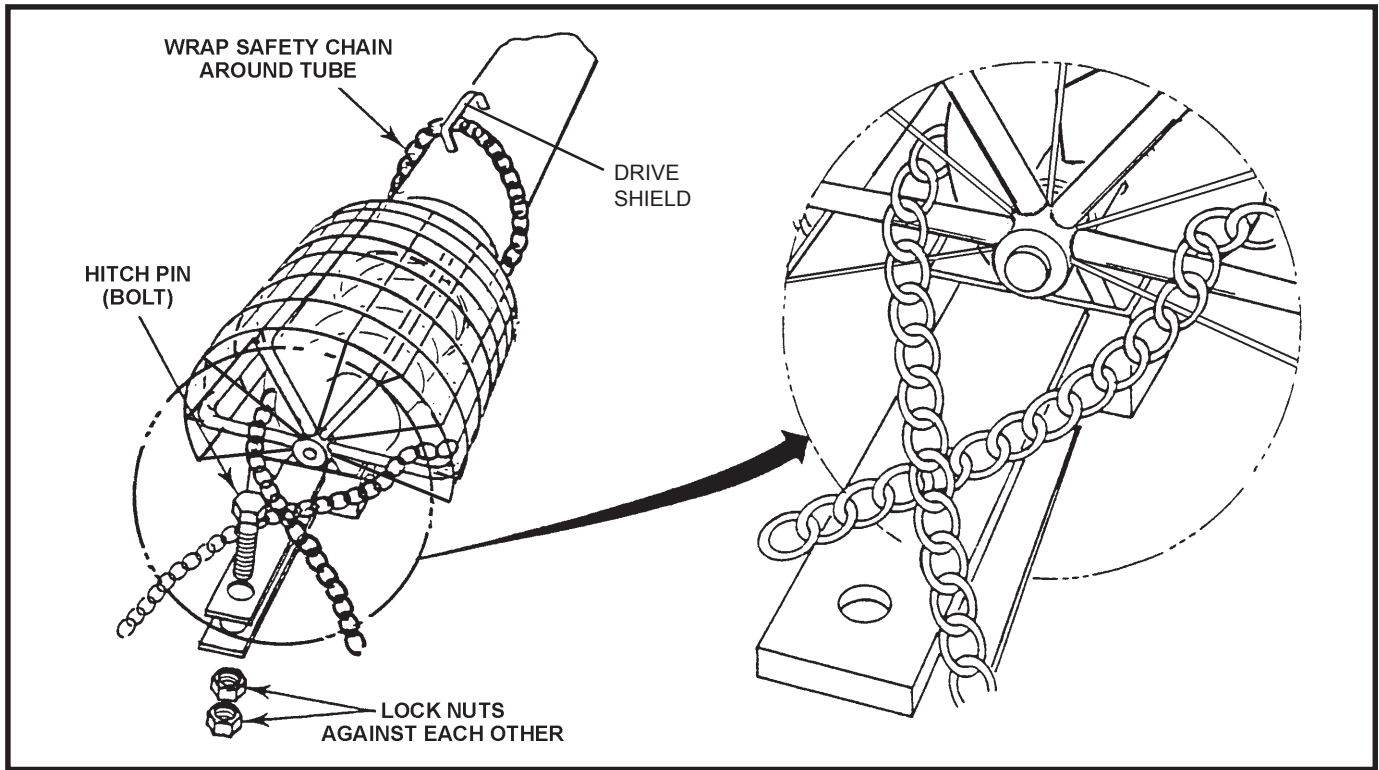

Figure No. 4.1.1
2. The hitch pin and safety chain are in place and secure. The safety chain should be threaded through handle on the lower tube and wrapped around auger tube before attaching to the towing vehicle. (See **Figure No. 4.1.1**)
NOTE: We recommend that a type of hitch pin be used that will not allow auger to separate from towing vehicle. (See **Figure No. 4.1.1**)